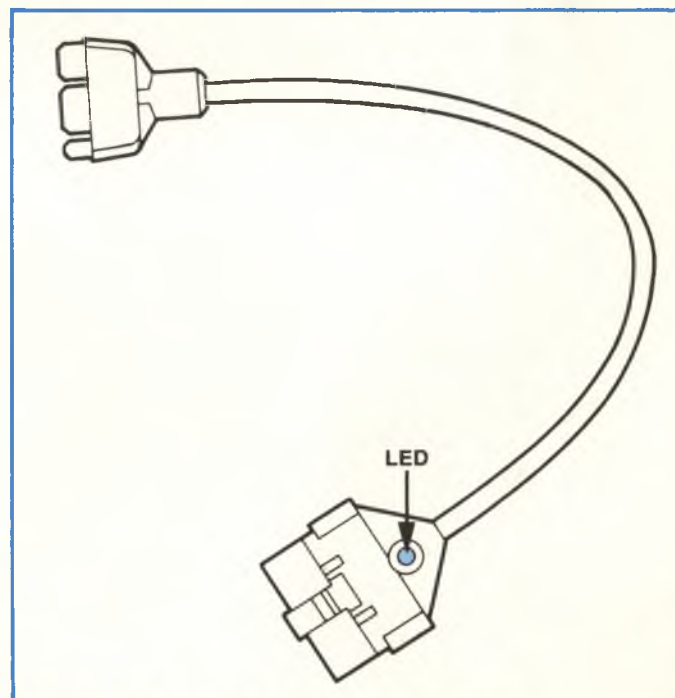

Figure 4-6, Pontiac "P" Car Adapter.
2. Observing key slots, connect optional Pontiac "P" Car adapter (figure 4-6) to Custom Cruise III Quick Checker.